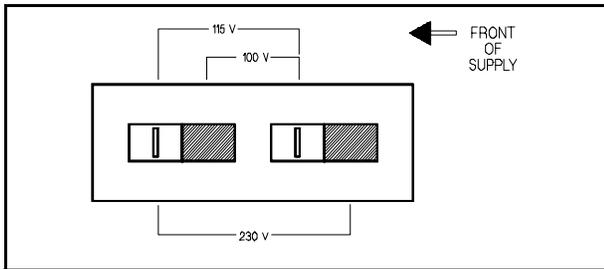

Figure 2. Line Voltage Selector (set for 115 Vac)
- c. Set two sections of the line voltage selector switch on the PC board for the desired line voltage (see Figure 2).